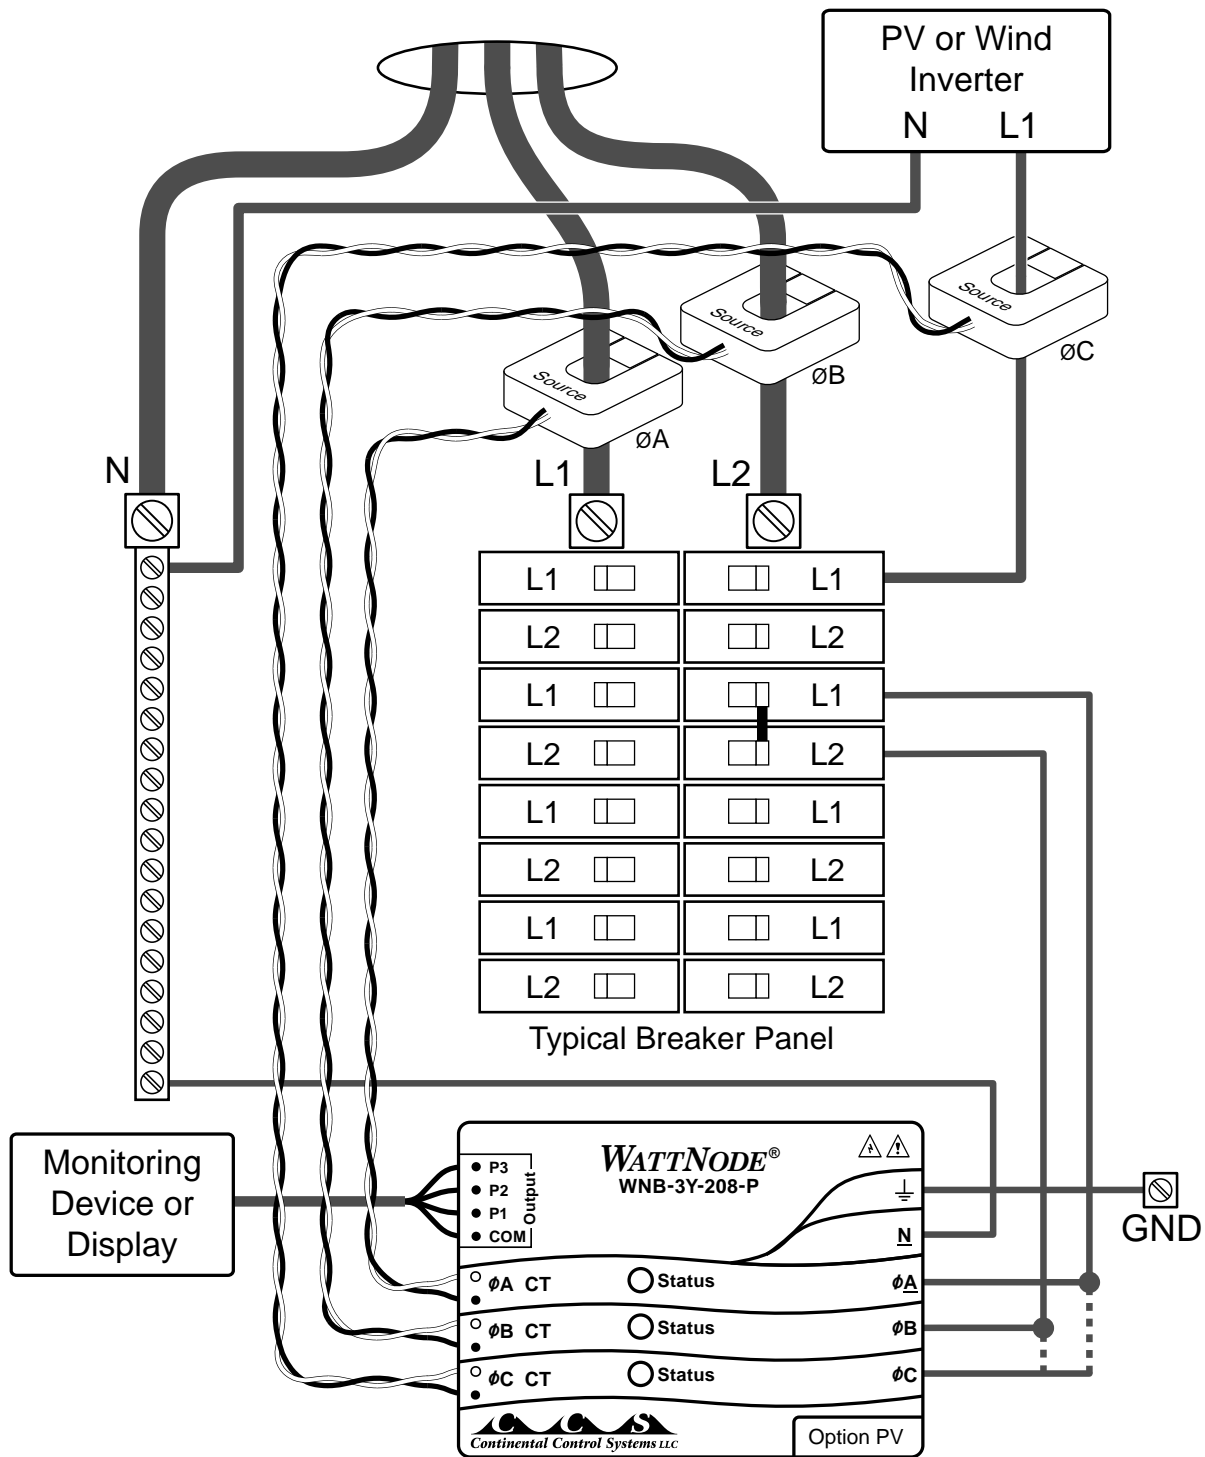

Figure 1: WattNode Installation Diagram with Single-Phase Inverter
Before installing the WattNode, review the precautions and instructions in the **Installation and Operation Manual**. See **Figures 1** and **2** below for wiring diagrams.
- **Single-Phase Inverter on L1:** connect the **ØC** terminal on the WattNode's green plug to L1 (**ØA**) using a jumper wire or wire nut (**Figure 1**).
- **Single-Phase Inverter on L2:** connect the **ØC** terminal on the WattNode's green plug to L2 (**ØB**) using a jumper wire or wire nut (**Figure 1**).
Connect the ϕA and ϕB WattNode phases to measure the total house consumption from the grid (see **Figure 1**). Jumper the ϕC green screw terminal to whichever mains phase (L1 or L2) is connected to the inverter. Install the inverter CT with the “Source” face (or arrow) aiming toward the inverter, and connect the CT wires the ϕC CT screw terminals: black wire → black dot, white wire → white dot.
If you have multiple single-phase inverters and they are all connected to the same house phase (either L1 or L2), then you can connect the WattNode as shown in **Figure 1**, but run the conductors for all the inverters through the inverter CT in the same direction.